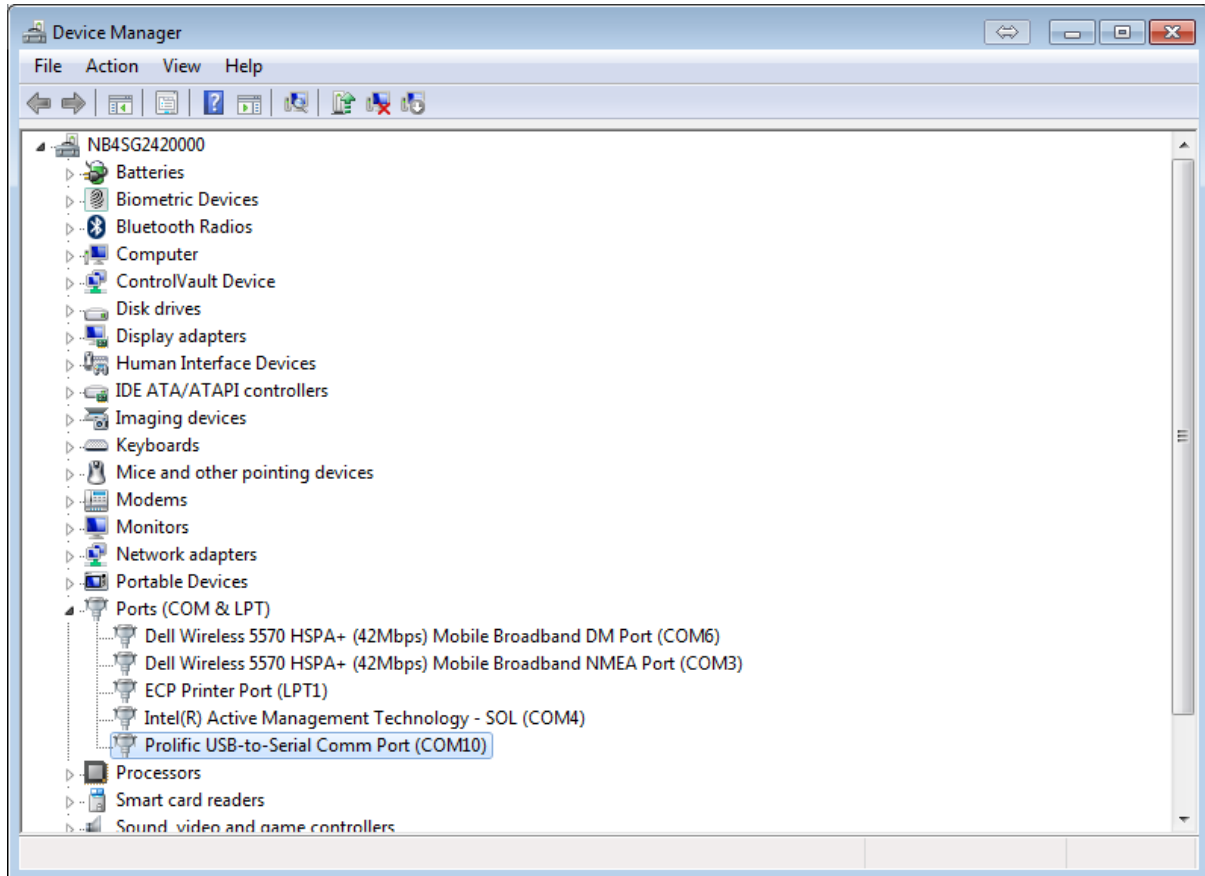

Figure 1-10: Device Manager
2. The driver located in the zip folder shown in Figure 1-10
3. After the installation, go to Start>Control Panel>System>Device Manager, the Prolific USB-to-Serial (COMX) will show. Please check the com port number to ensure you have the right com port to set in connect: desk. As shown at Figure 1-10.